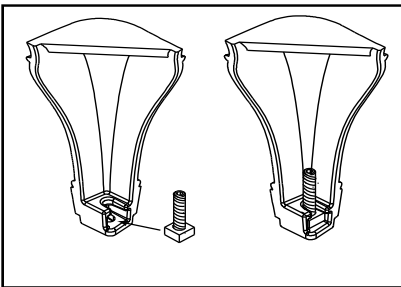
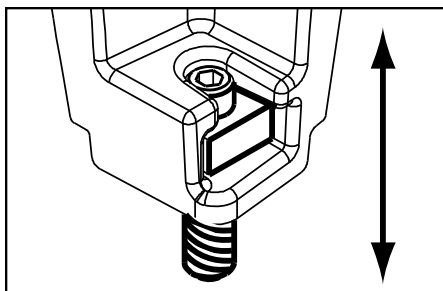

Figure 18.2
Figure 18.3 - Bolt fully extended
2. Slide assembled nuts and bolts into slots on legs with the nuts on the bottom. **Figure 18.2.** Use a 5/32 in. (3.96mm) Allen wrench to adjust legs up and down to desired level. **Figure 18.3.**